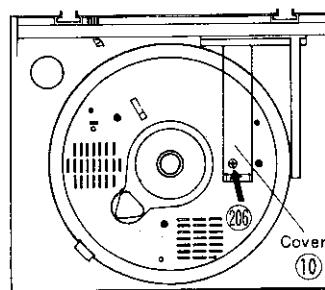

Figure 3
- 1-5. Remove the screw (206) which mounts the Cover(10) to the Cabinet top (1).
- 1-6. Remove the Cover (10) from the Cabinet top by drawing it (Fig. 3).